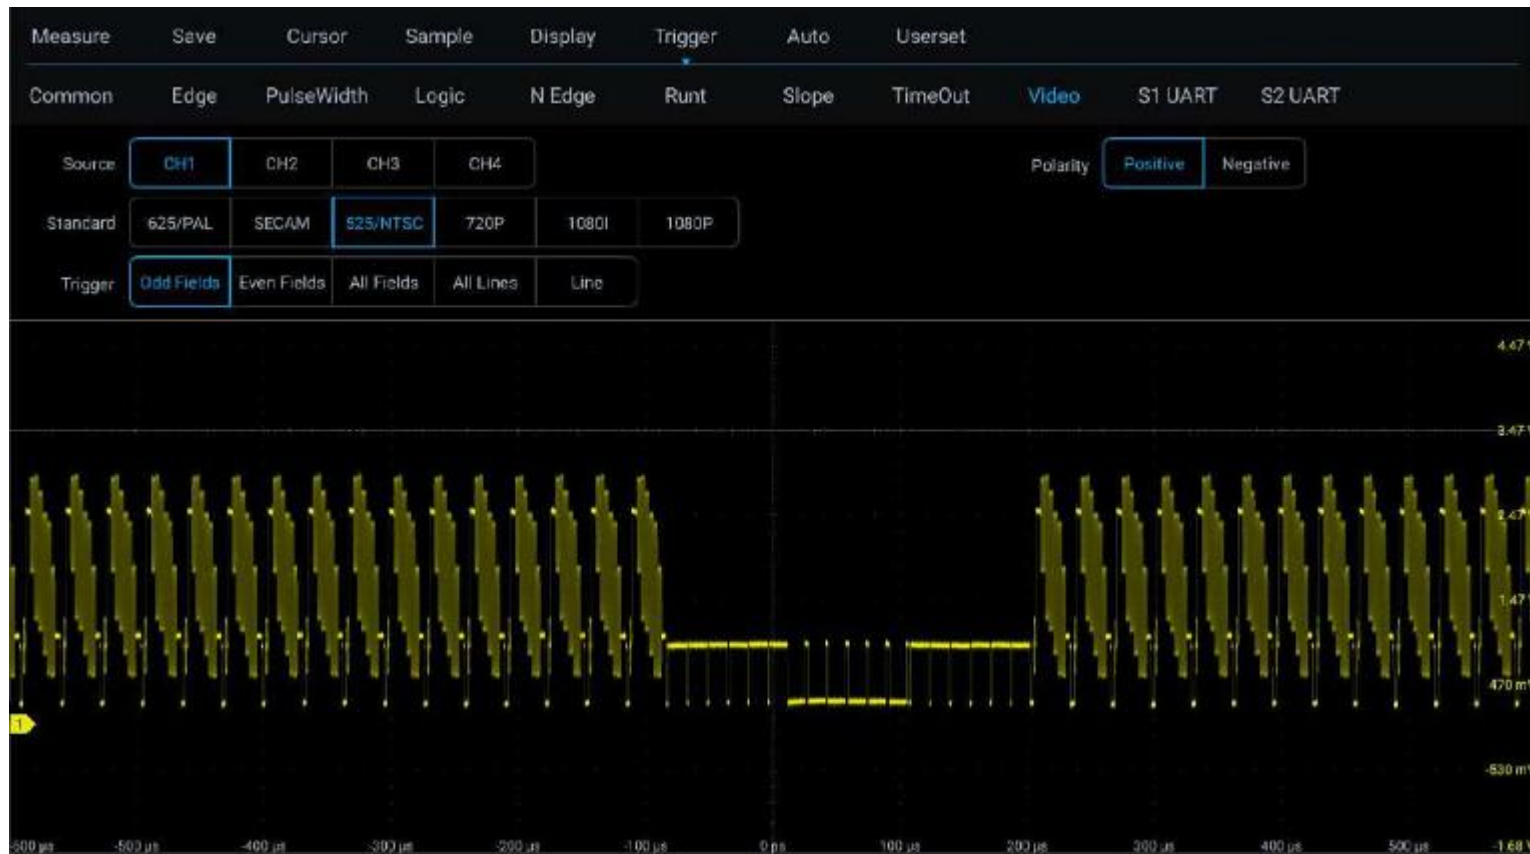

Figure 6-30 Video Trigger
1) Tap “Trigger” on the main menu to open the trigger menu, select the video trigger in the trigger type, and set the video trigger as follows, as shown in Figure 6-30: